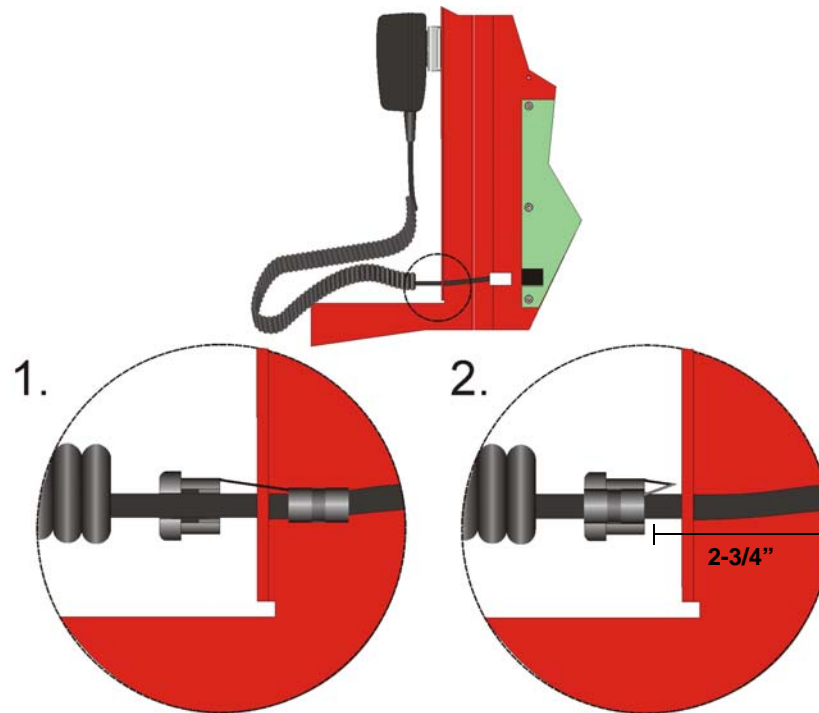

Figure 3-11 Installing Strain Relief Clip
3. Attach strain relief clip to microphone cord. The strain relief clip should have about 2-3/4" of microphone cord through it. See Figure 3-11.